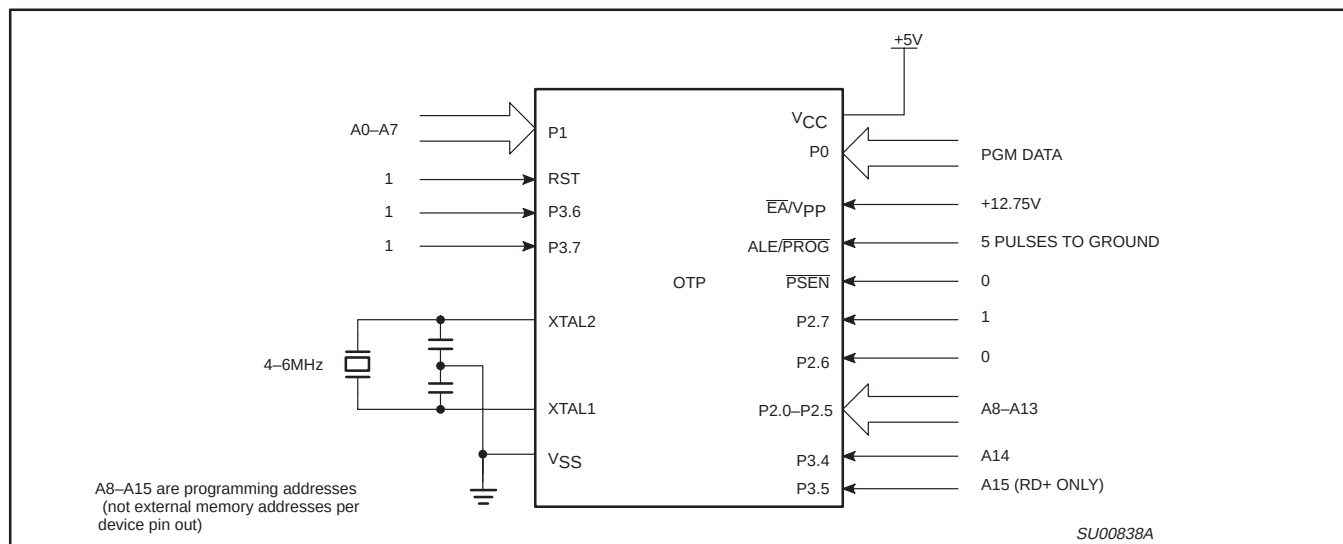
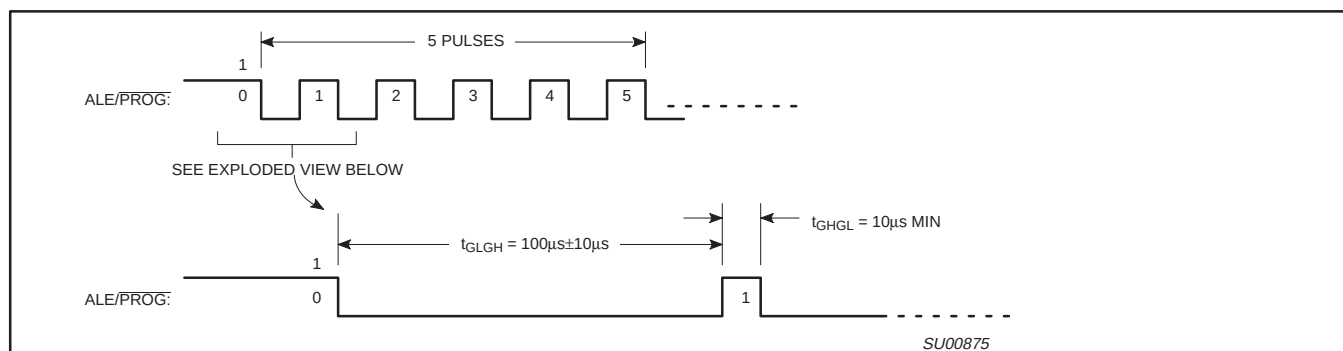
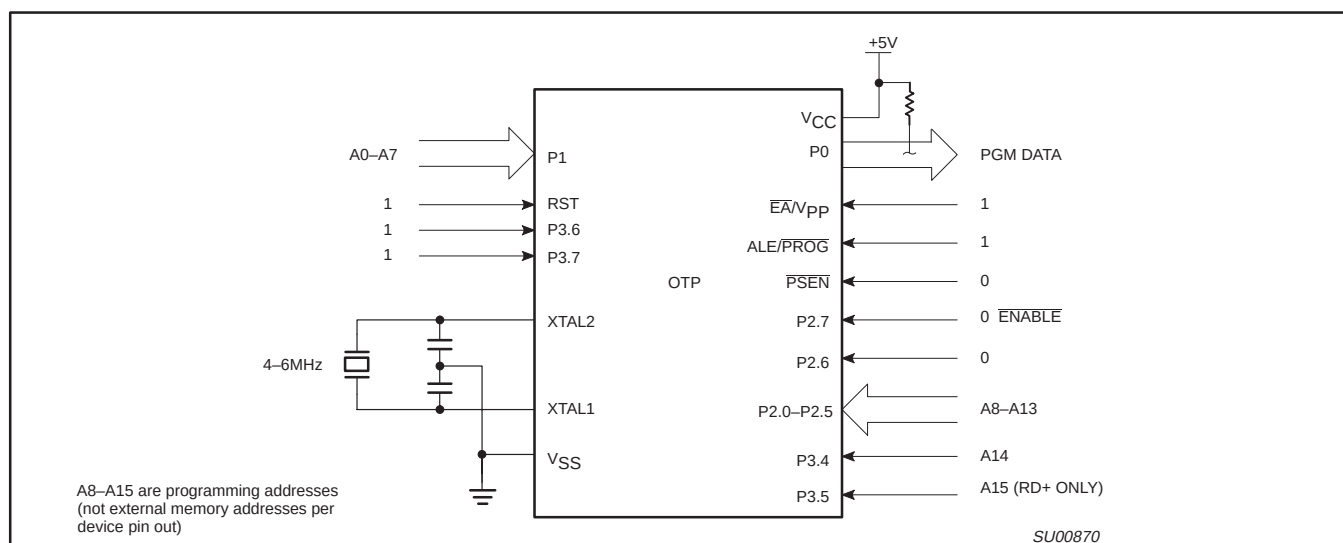

Figure 41. Programming Configuration
Figure 42. $\overline{\text{PROG}}$ Waveform
Figure 43. Program Verification
Table 9 shows the logic levels for reading the signature byte, and for programming the program memory, the encryption table, and the security bits. The circuit configuration and waveforms for quick-pulse programming are shown in Figures 41 and 42. Figure 43 shows the circuit configuration for normal program memory verification.
The setup for microcontroller quick-pulse programming is shown in Figure 41. Note that the device is running with a 4 to 6MHz oscillator. The reason the oscillator needs to be running is that the device is executing internal address and program data transfers.
The address of the EPROM location to be programmed is applied to ports 1 and 2, as shown in Figure 41. The code byte to be programmed into that location is applied to port 0. RST, $\overline{PSEN}$ and pins of ports 2 and 3 specified in Table 9 are held at the 'Program Code Data' levels indicated in Table 9. The ALE/PROG is pulsed low 5 times as shown in Figure 42.
address of the program memory locations to be read is applied to ports 1 and 2 as shown in Figure 43. The other pins are held at the 'Verify Code Data' levels indicated in Table 9. The contents of the address location will be emitted on port 0. External pull-ups are required on port 0 for this operation.
- * FOR PROGRAMMING CONFIGURATION SEE FIGURE 41.
- FOR VERIFICATION CONDITIONS SEE FIGURE 43.